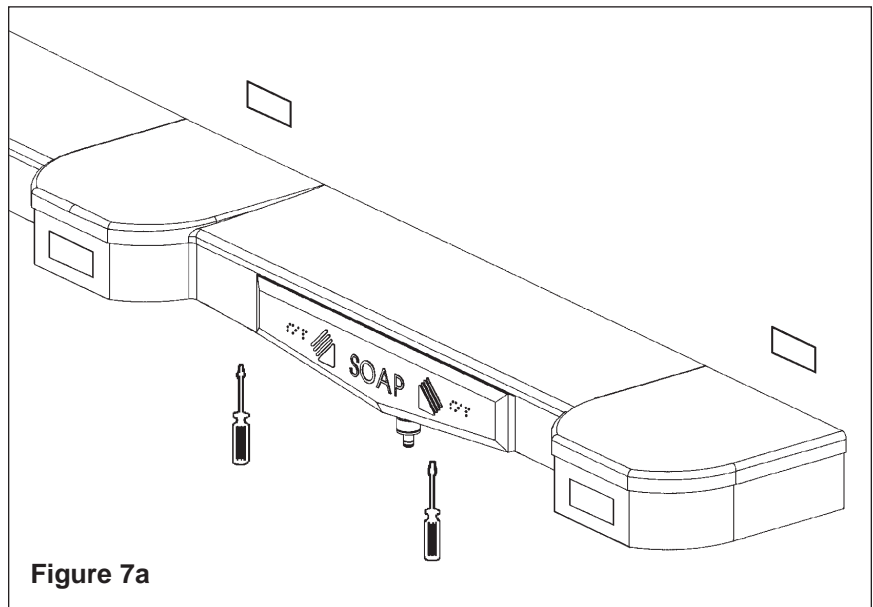

Figure 7a
1. Using two screwdrivers (or similar tool), push up on the release tabs located beneath each soap dispenser and pull out the soap tanks from the sprayhead (see Figure 7a).